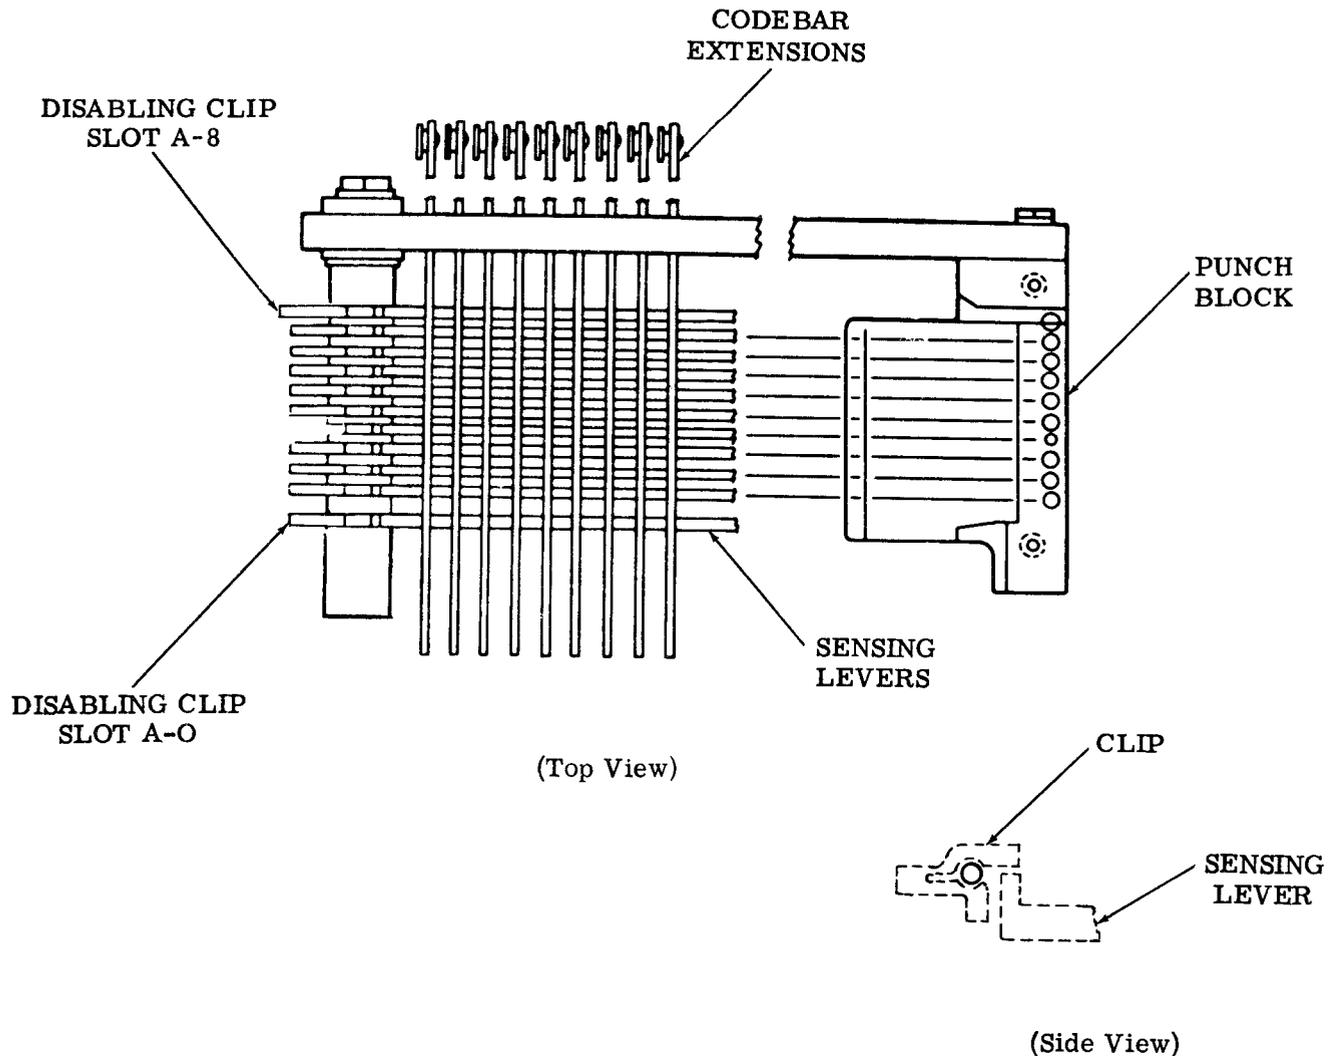

Figure 17 - Tape Punch Disabling Clips
6.01 The 3300 Series Coded Sets are shipped with the tape punch having two disabling clips installed in slots A-O and A-8. If manual operation of the tape punch is desired, retain the two clips; if automatic operation is desired, remove the two clips. See Figure 17. The 33